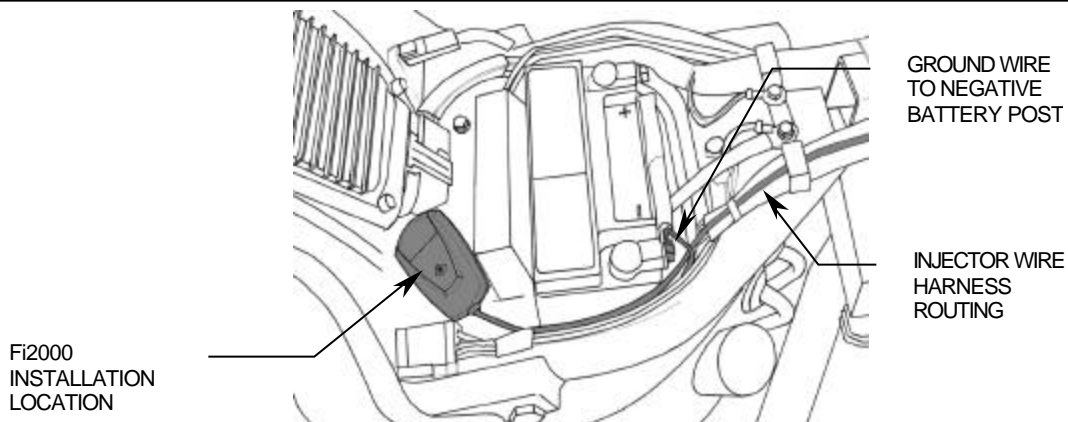

FIGURE 4
8. If the battery has been removed reinstall it. Attach the black wire to the NEGATIVE post of the battery. Attach the Fi2000 Module with Velcro as shown in Figure 4.